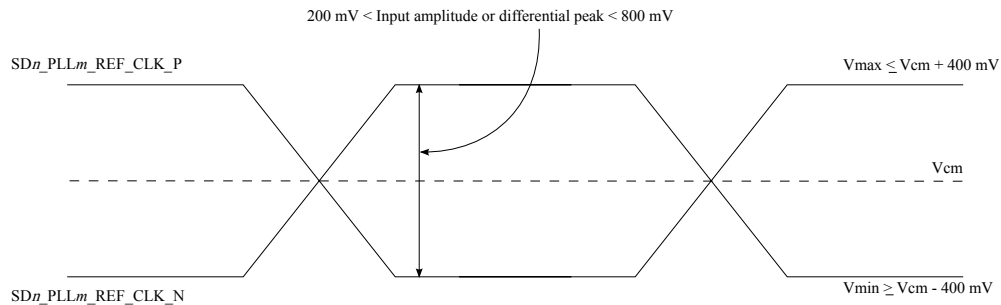

Figure 48. Differential reference clock input DC requirements (external AC-coupled)
- For an external AC-coupled connection, there is no common mode voltage requirement for the clock driver. Because the external AC-coupling capacitor blocks the DC level, the clock driver and the SerDes reference clock receiver operate in different common mode voltages. The SerDes reference clock receiver in this connection scheme has its common mode voltage set to SD_GND. Each signal wire of the differential inputs is allowed to swing below and above the common mode voltage (SD_GND). Figure 48 shows the SerDes reference clock input requirement for AC-coupled connection scheme.